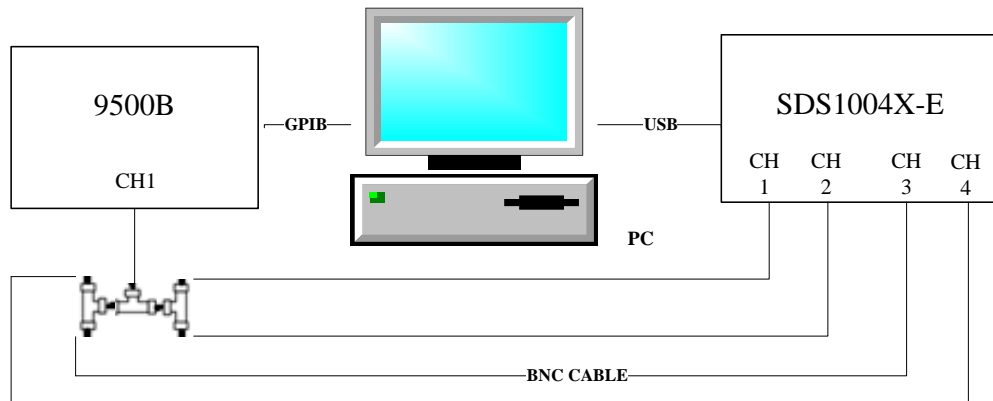

Figure 8 Connecting test instruments for DCG\Offset
2. Connect all channels of the oscilloscope to the 9500B as shown in Figure 8.
2. Connect all channels of the oscilloscope to 9500B as shown in Figure 8.